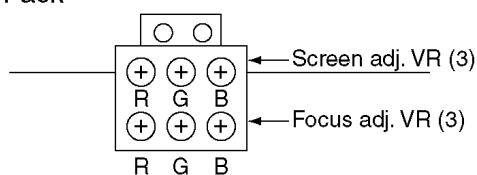

Fig. 2
6. Adjust the Red, Blue and Green focus VR on the focus block for best focus of overall picture of each CRT. (Fig. 2)
The electrical focus controls are located on the front. Adjust the Green Focus VR for best focus of overall picture. (Fig. 2)